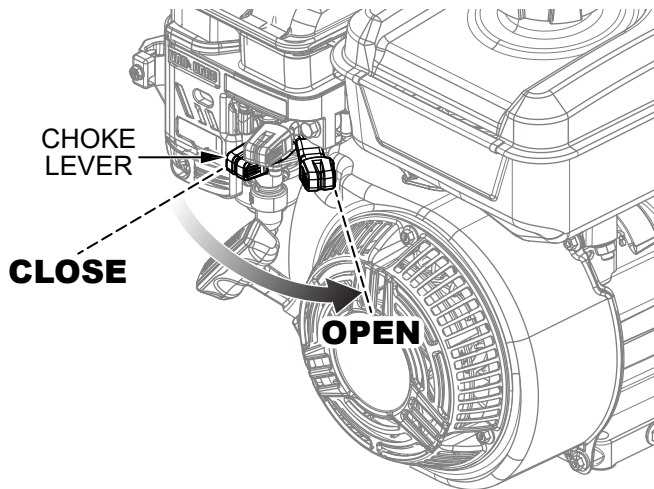

Figure 31. Choke Lever (Open)
5. If starting a warm engine, place the engine choke lever in the **OPEN** position (Figure 31).
7. If the engine has started, slowly return the choke lever to the **OPEN** position (Figure 31) as the engine warms. If the engine has not started, repeat steps 1–5.